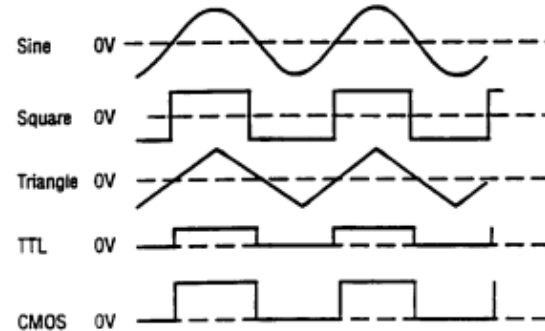

Figure 2. Output Waveform and Phase Relationship
1. Initially, verify that the **DUTY CYCLE** (17), **CMOS LEVEL** (15), **DC OFFSET** (14), **-20 dB** (11), and **SWEEP INT/EXT** (12) switches are in the OUT position (released). This will produce a symmetrical waveform unaffected by the sweep generator and other controls.
2. Plug the unit into an appropriate power source and turn it on by engaging the **POWER** switch (1).
3. Select the desired waveform (SINE, SQUARE, or TRIANGLE) by engaging one of the **FUNCTION** switches (3). Phase relationships of the waveforms are shown in Fig. 2.
4. Select the frequency of the waveform by depressing one of the **RANGE** switches (2). The output frequency is displayed, along with the appropriate measurement units, **KHz** or **Hz** (23), on the LED display.
5. Rotate the **COARSE** (20) frequency control to quickly set the output frequency to the approximate desired value. The **FINE** (19) frequency control can then be used to easily set the output to the specific desired value. The frequency selected is available at the **OUTPUT** jack (6). In addition, a digital signal, either **TTL** or **CMOS** is available at the **TTL/CMOS** jack (7) (refer to the "TTL/CMOS OUTPUT" section of this manual).